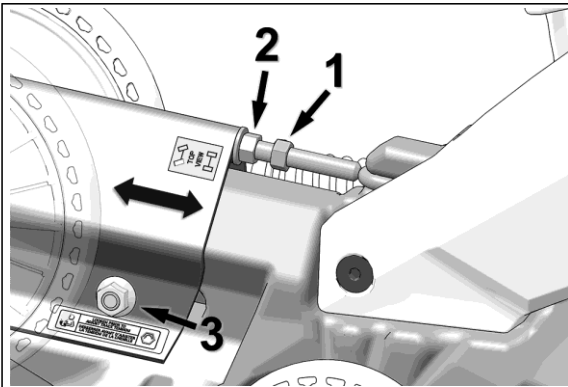

Figure 27
Loosen jam nut (1) and turn adjusting nut (2) clockwise or counterclockwise to set track tension according to specification (see table below). After completing the track tension adjustment, re-tighten the jam nut (1) against the adjustment nut (2). See Figure 27.